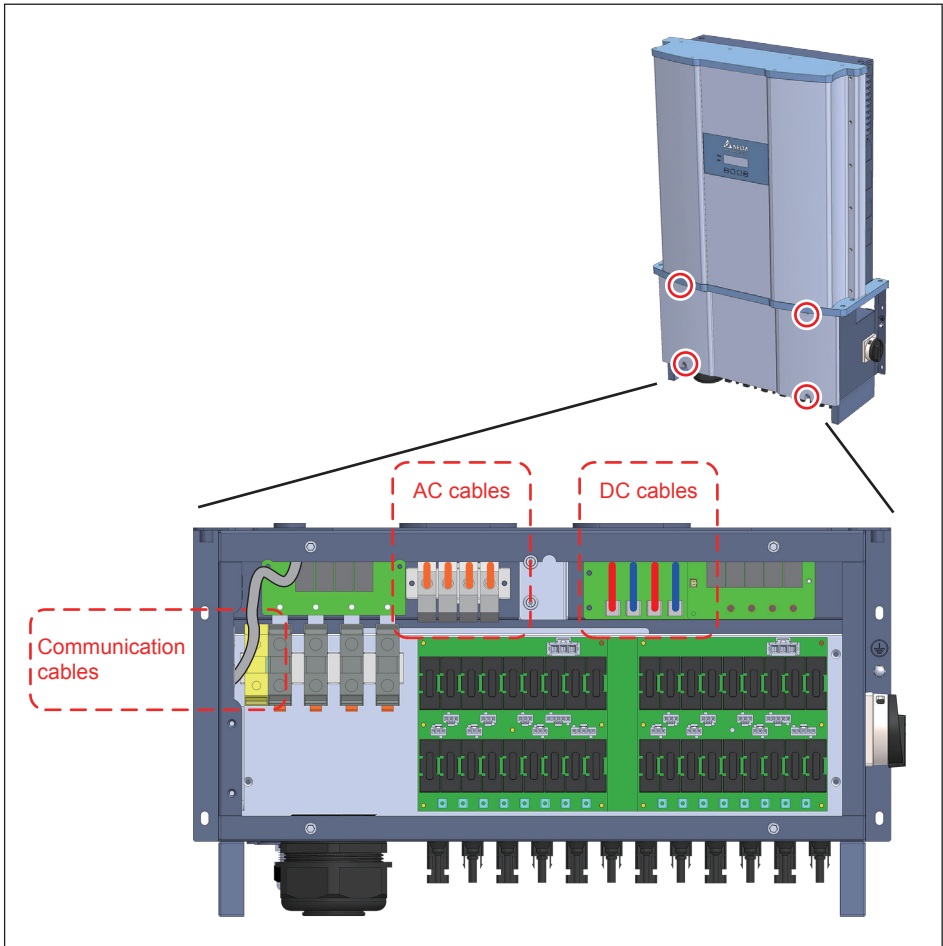

Figure 5-12 : Remove AC, DC, and communication cables and then unscrew 6 screws
6. Unscrew those screws shown in **Figure 5-12**.